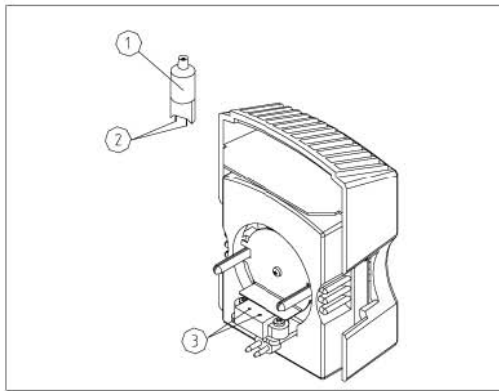

Fig. 2
2. Holding the bulb ① with a piece of gauze or other protective material, insert the bulb pins straight and fully into the pin holes③ on the lamp house. (Figure 2)